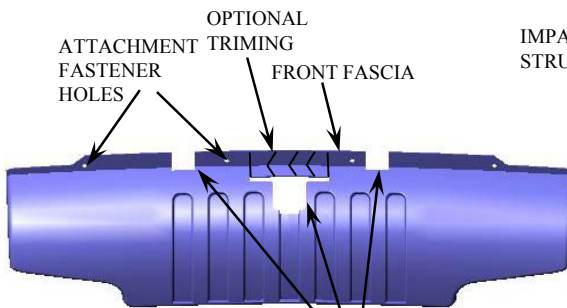

FIGURE 2
①	Qty. (2)	HEX BOLT – 1/2"-13 X 1-1/2" GR 5	⑤	Qty. (4)	HEX BOLT – 1/2"-13 X 1-1/4" GR 5
②	Qty. (6)	WASHER – 1/2" CONICAL	⑥	Qty. (2)	LOCK WASHER – 1/2"
③	Qty. (2)	BLOCK – 1/4" X 1-1/2" X 3"	⑦	Qty. (4)	HANDLE NUT – 1/2"-13
④	Qty. (2)	HEX NUTS – 1/2"-13	⑧	Qty. (2)	CABLE TIES (NOT SHOWN)
1. REMOVE (6) FRONT FASCIA ATTACHMENT FASTENERS. (4 LOCATED AS SHOWN IN FIGURE 2 AND (2) LOCATED AT THE REAR SIDE OF IMPACT STRUCTURE) WITH A GOOD NUMBER 2 PHILLIP HEAD SCREW DRIVER.